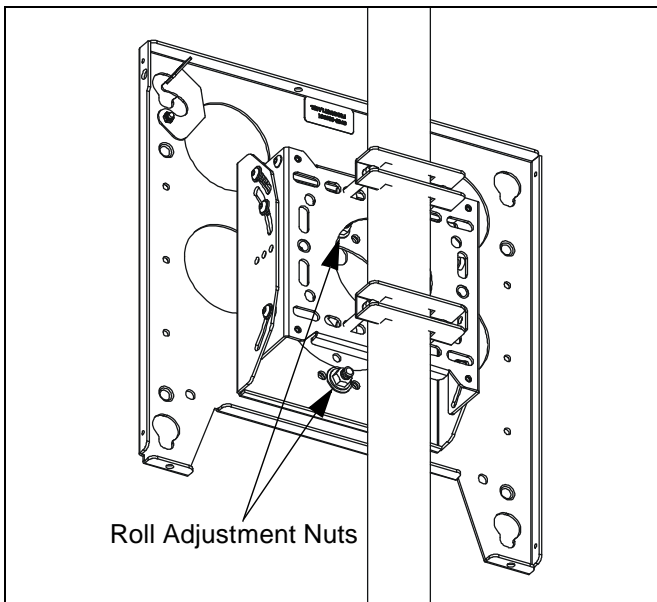

Figure 11: Roll Adjustment
1. Loosen upper and lower roll adjustment nuts (see Figure 11).
3. Tighten roll adjustment nuts (see Figure 11).